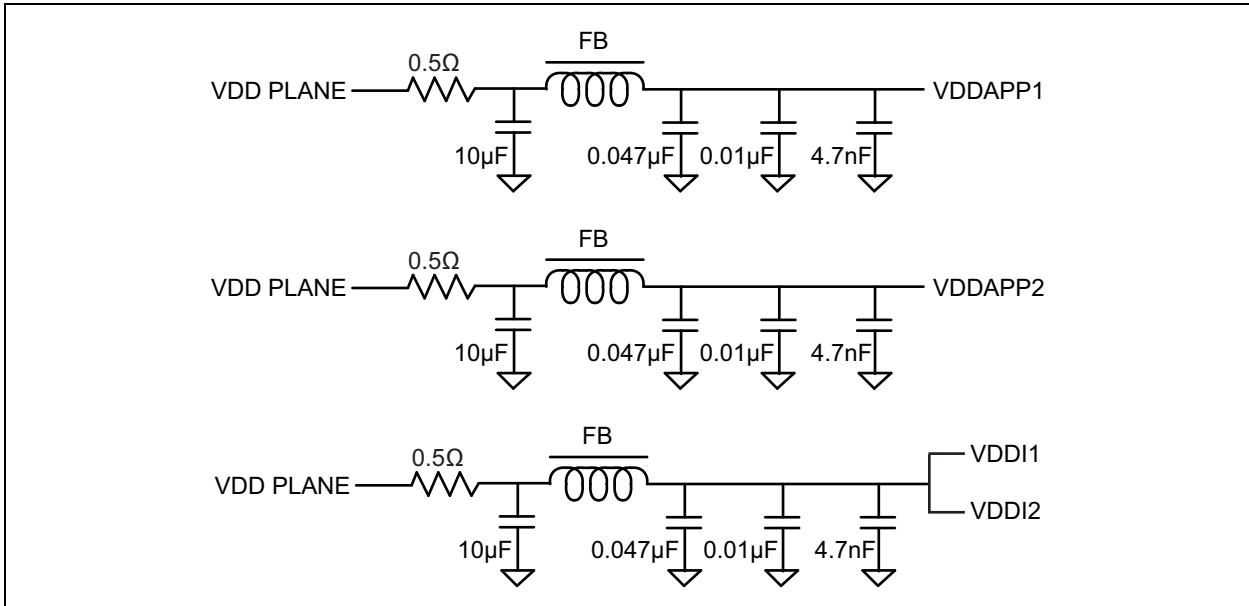

FIGURE 5-1: Recommended Power Supply Filtering.
- Use the power supply filtering shown in Figure 5-1 for V_{DDAP1} , V_{DDAP2} , V_{DDI1} and V_{DDI2} .